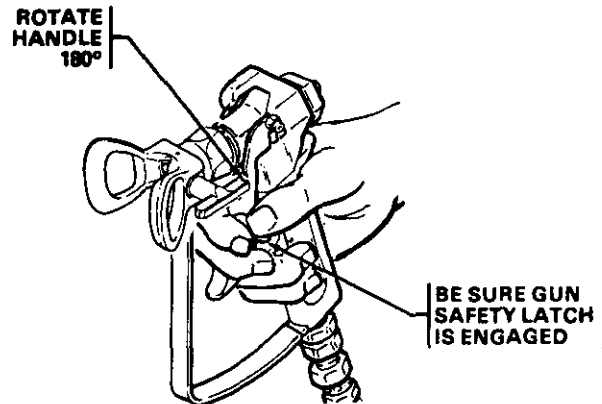

Fig 6
- If the spray tip does clog, release the gun trigger, engage the gun safety, and rotate the RAC IV handle 180°. See Fig 6.